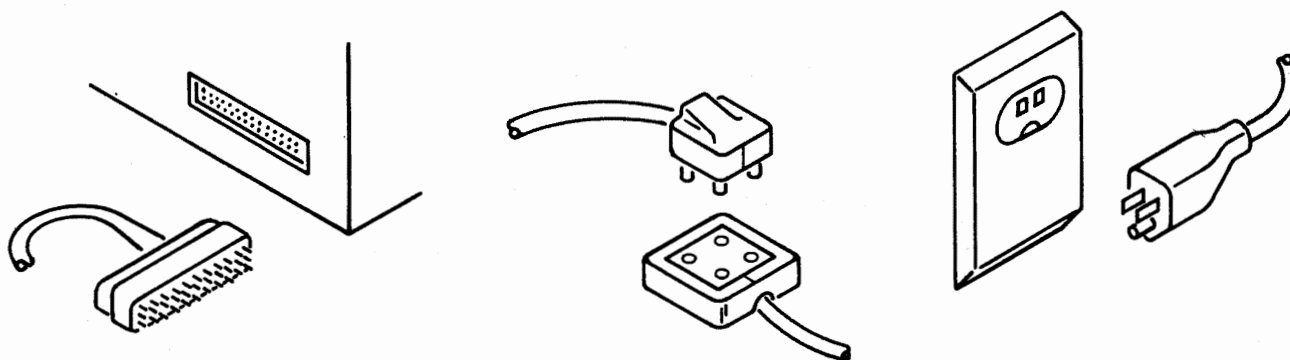

Figure 3-2. Typical Modem Connector, Telephone Equipment Connector, and Modem Power Plug
- 3 Check all exposed telephone equipment connectors, modem connector, and the modem power plug (as shown in Figure 3-2), for loose connections. Tighten any loose connection. Do *not* unplug the terminal power plug.